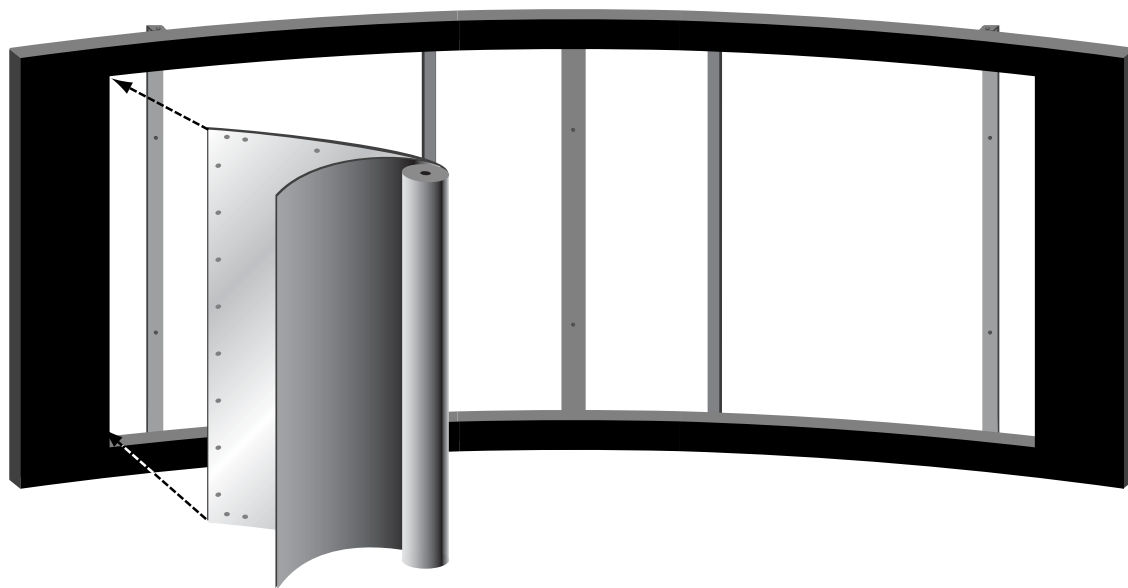

Figure 3: Unrolling the screen for attachment to the frame
3. While supporting the screen roll, snap the screen into the frame starting at the top left. Gently allow the screen to stretch onto the snaps. **Do not** jerk the material, as it can rip. Refer to Figures 3 and 4. Attach the snaps on the top corners and top horizontal section first, unrolling the screen as you go. Attach remaining snaps.